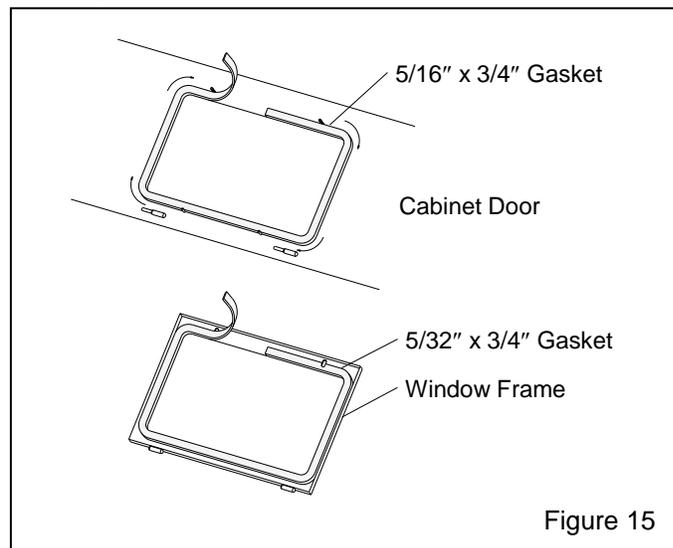

Figure 15
## 6.4 Window-Gasket Replacement – Figure 15
**6.4.4** Peel a short section of adhesive backing from the 5/16"-thick strip gasket and adhere the gasket to the center of the top edge of the window opening, as shown in Figure 15. Peel additional backing as needed and work the strip around the radius of each corner, pressing it firmly to bond. Trim the gasket to fit and compress the ends to seal.